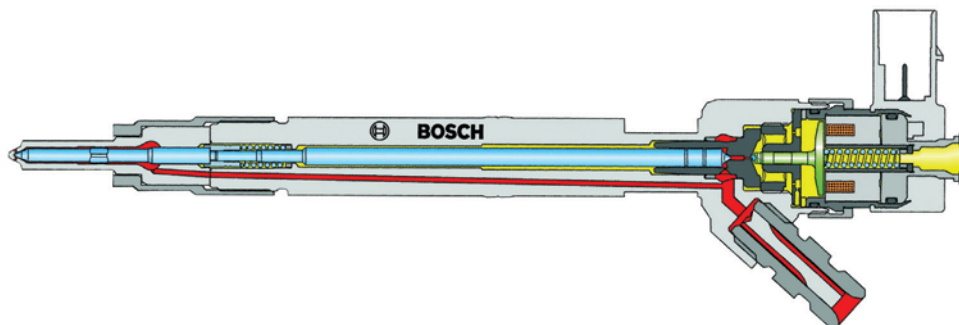

Figure 6.51 Electrically operated diesel fuel injector
- ▶ electronically controlled injectors (Figure 6.51);